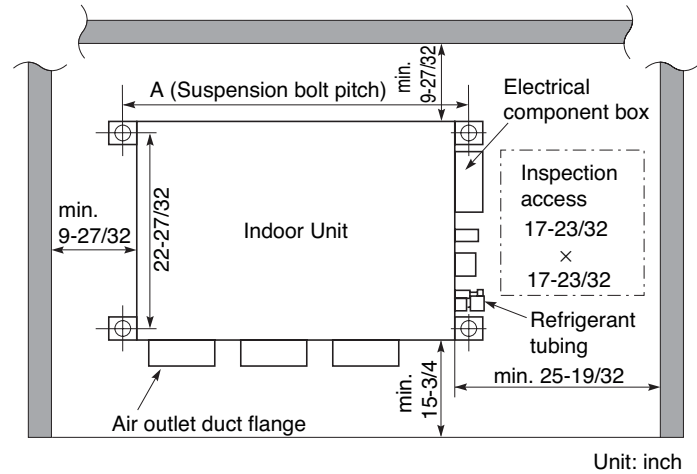

Fig. 3-91
- The minimum space for installation and service is shown in Fig. 3-91 and Table 3-4.